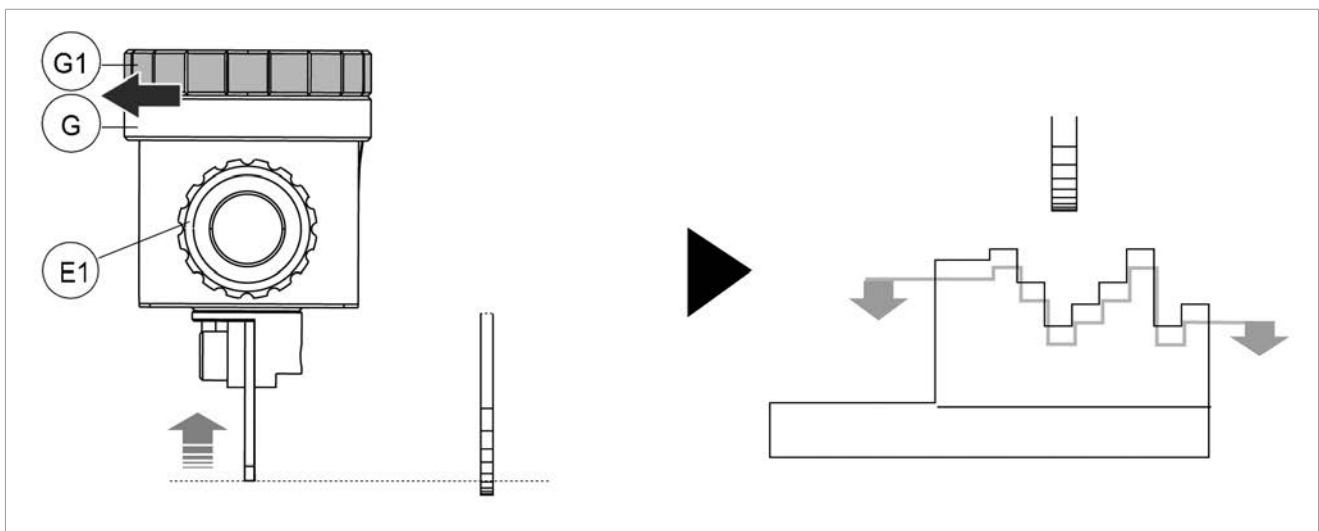

Fig. 19
- turn the ring nuts (G) and (G1) anticlockwise to return (Fig. 19).